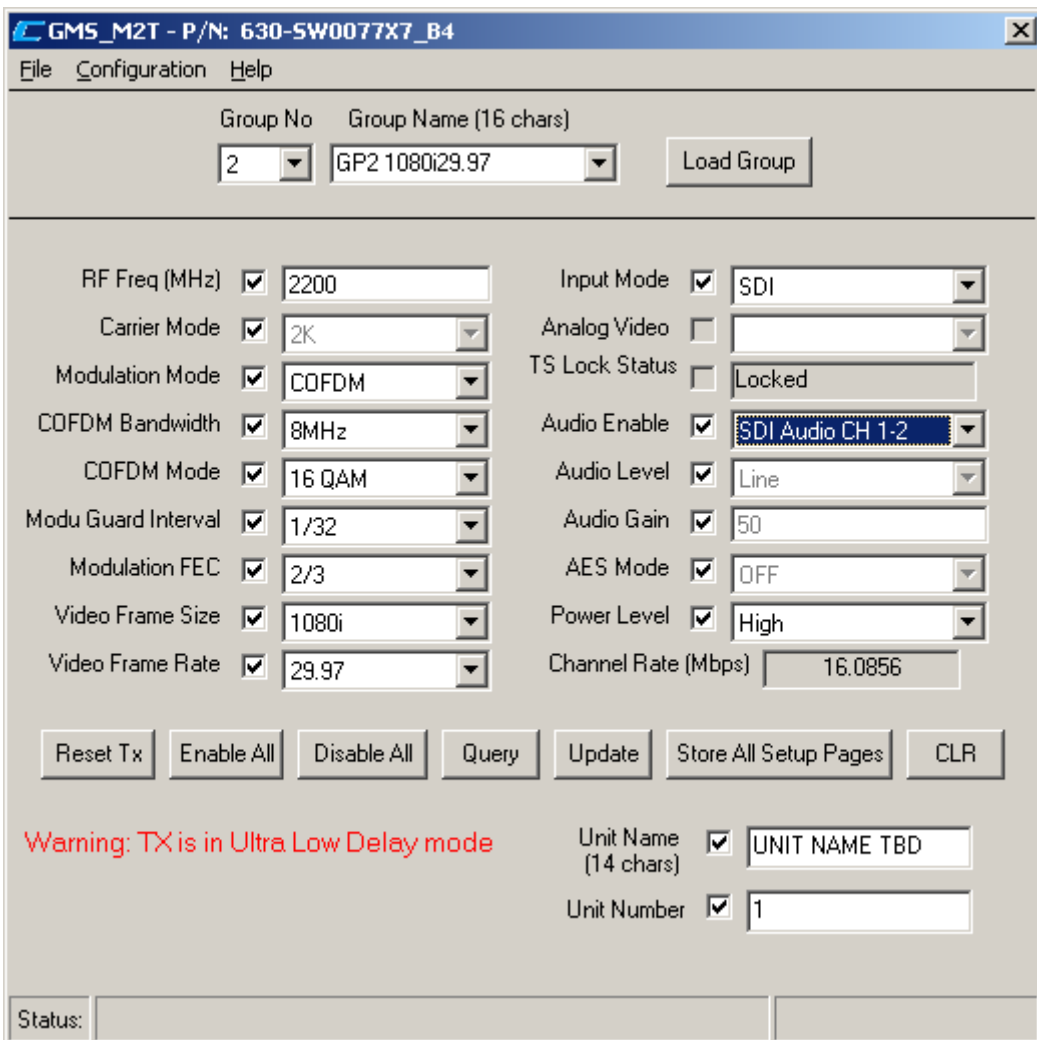
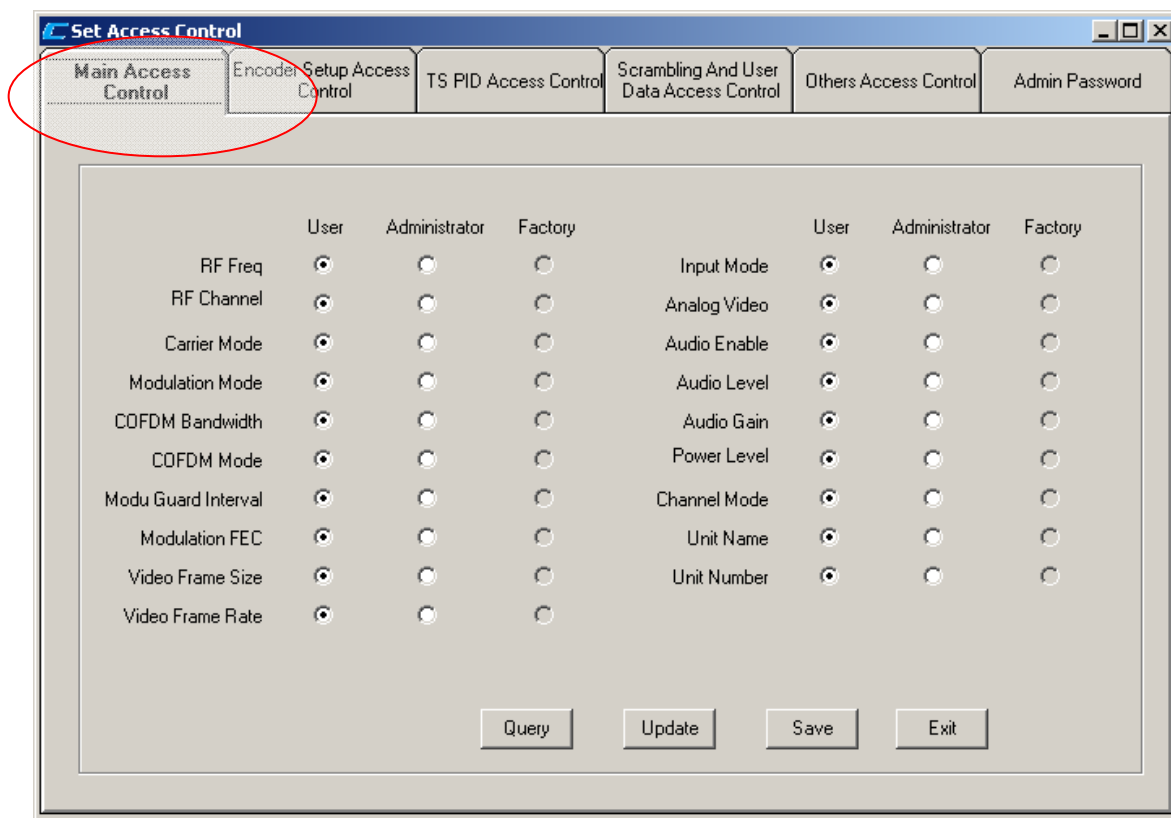

Figure 6 M2T-C Configurator Main Screen
Figure 9 Main Access Control
The Device Selector region allows the end user to select from various devices. Presently the existing selections are reserved for future devices. To start the application, select the ‘M2T’ check box in the Device Selector region. Once the box is selected, the opening screen as shown in Figure 6 appears. *Notice that if the text in any of the fields is gray in color this indicates that the field cannot be changed by the current user. Only administrators (with the correct password) can change the fields or they can allow users the ability to modify fields for which they have been given access.*
1. The "Main Access Control" (see figure 9). The parameters associated mostly with the video and RF setups of the transmitter are located under this tab (elements the user would normally see from the front page of the GUI as shown in figure 6 above).
- **“Load Group” Button**: The data structure of the M2T-C is organized into “Groups” of selected fields. A Group contains the following fields (refer to Figure 6 above): **Carrier Mode, Modulation Mode, COFDM Bandwidth, COFDM mode, Guard Interval, Modulation FEC, Video Frame Size, Video Frame Rate and Input Mode.**
The fields as shown in Figure 6 of the main screen (above) are defined below in Table 2. The Table also indicates if the field is a read or a write field or both.